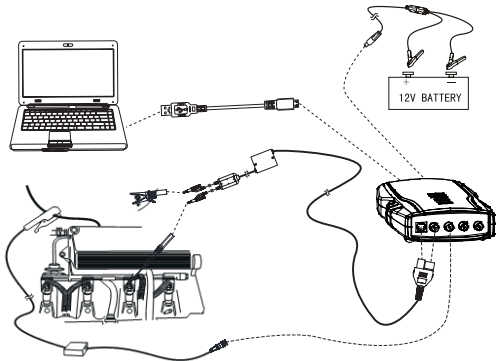
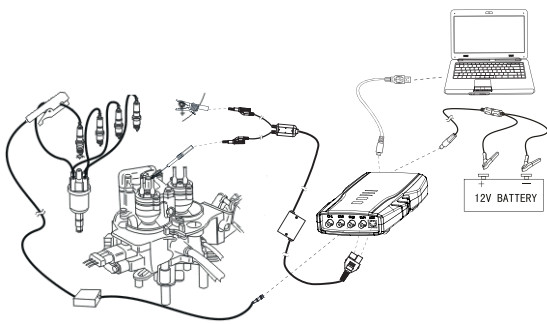

Fig. 37: Connecting diagram of multi-point fuel injection
Fig. 38: Connecting diagram of single point fuel injection
When connecting KT720 to power extension cable for power supply, choose power supply according to the battery position of vehicle mode tested. All connecting diagrams in this users manual take power supply by battery clip power cable as example. Connect BNC end of 1 cylinder signal to CH3 of KT720, use signal clip to clip high voltage line of one cylinder of engine. Please check that there is "This side faces to spark plug" on the signal clip, do not clip reversely. Connect BNC end of multiple end of KT720 differential probes to CH4, connect the other end of multiple end to assistant channel. Then connect the other end of the black banana plug of KT720 differential probes and black alligator clip to negative pole of battery or grounding, and connect the other end of red banana plug and red banana socket into the signal line. Multi-point fuel injection connection method as shown fig. 37, single-point fuel injection connection methods as shown fig. 38.
1. Connect equipment according to Fig.37 or Fig.38, switch on power supply.